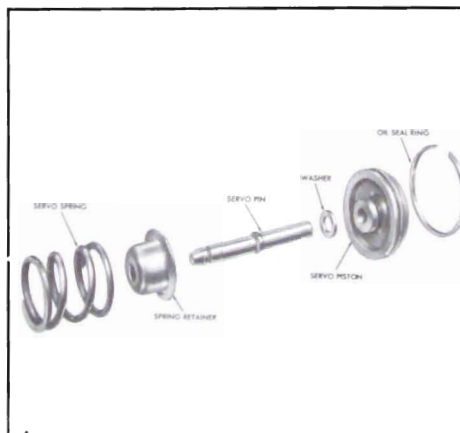

Figure 5-732
4. Install oil seal ring on front servo piston if removed, and install on apply pin so that identification numbers on shoulders are positioned toward bottom of pan. See Figure 5-732.